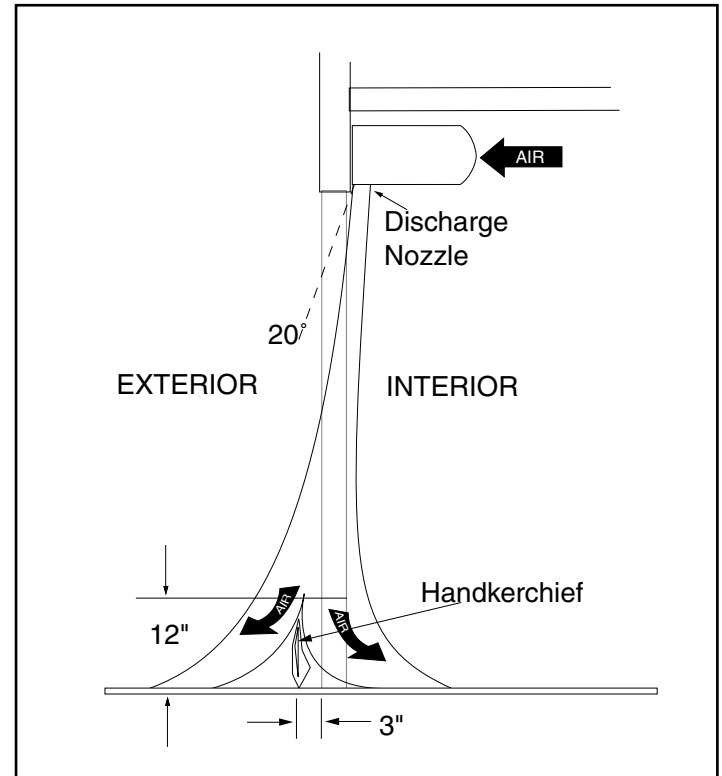

Figure 9
2. Find the air stream split location. Hold a handkerchief by its corners, approximately 12" above the floor. Gently move the handkerchief back and forth in the doorway. Make sure the air is being directed to both the inside and the outside. **See Figure 9.** The split location is indicated where the handkerchief is vertical with minimal or no fluttering.